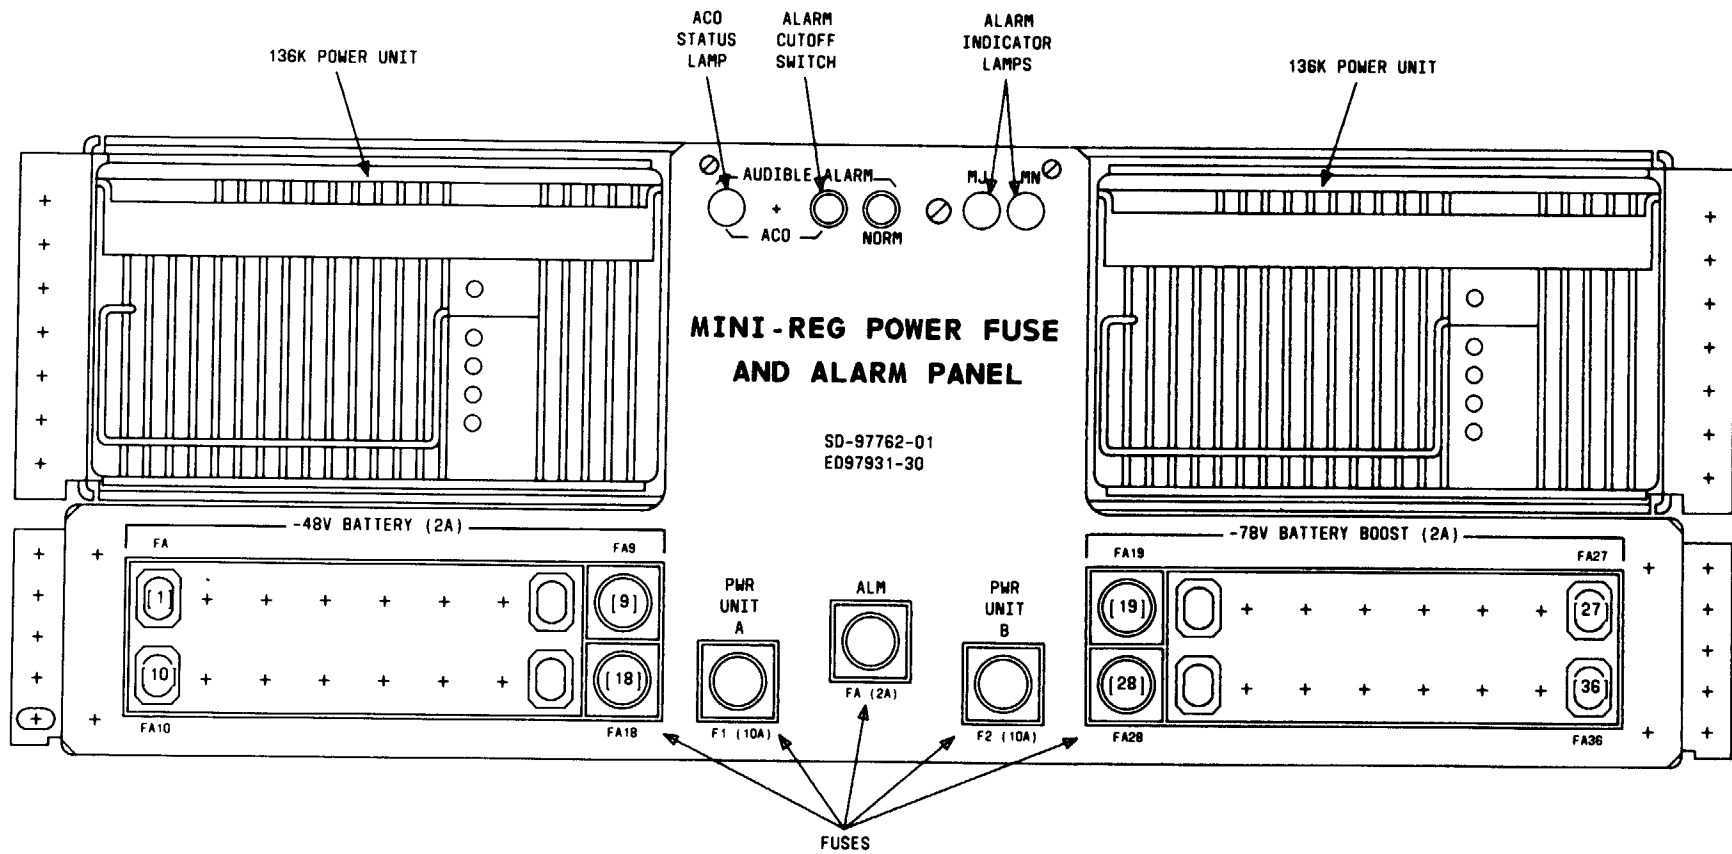

Fig. 5—Mini-REG Power Fuse and Alarm Panel
4.09 The power, fuse, and alarm panel contains the bay fuses, alarm circuits, and power units as shown in Fig. 5. Each plug-in shelf of 7A REGs is protected by type 70 fuses. There is one fuse for the -48 V and one for the -78 V supplies to each shelf. The -78 V dc boosted battery is provided by a pair of 136K power units (dc-to-dc power converter units) in the panel. The outputs of these two units are paralleled through diodes internal to the power supplies.